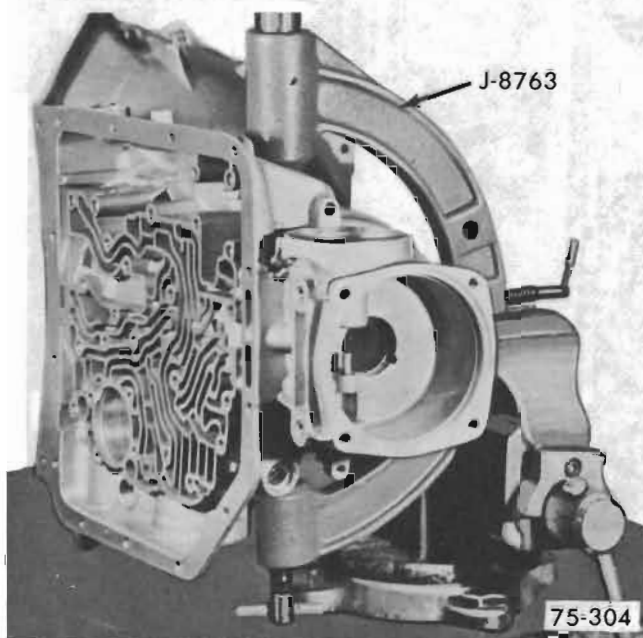

Figure 76-279
3. Assemble transmission case in fixture J-8763 and mount in a vise. See Figure 76-279.